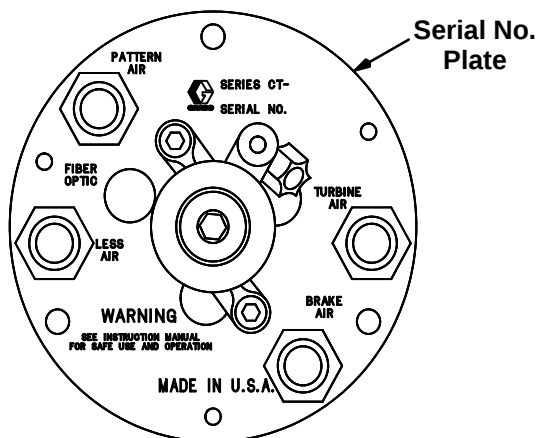

Fig 9
2. Record the atomizer serial number from the plate located on the back of the manifold (6). See Fig 9.
5. Remove the bearing assembly (1) from the manifold (6) as instructed on page 20, steps 1 to 3.
6. Return the bearing assembly (1) to Graco or to your authorized Graco distributor.